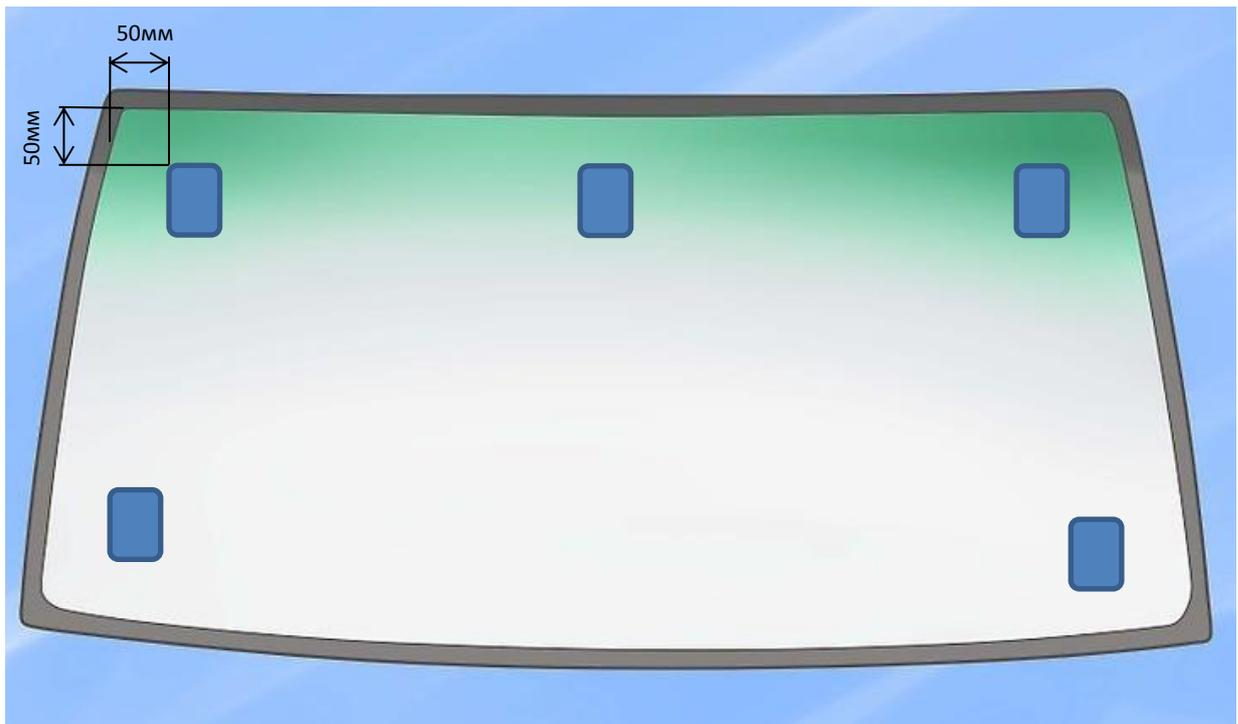

Figure 4. Variants of mounting to the windshield.
In case of damage the firmware Tracker and if you cannot upgrade to the regular way, disaster recovery mode. To restore, you must close the jumper the two special contact on board Tracker (see Figure 4), connect the PC USB cable (USB port on the computer must provide the power), run on your computer utility. This utility writes in Tracker base version
3. 2. Open installation. The tracker is mounted inside the car interior, horizontally, with the logo upwards, on the dashboard, or at an angle of up to 90 degrees on the windshield, with the logo ahead in the direction of travel (Figure 4). The power of the tracker can be either from an on-board 12/24 V network or via a USB port from a special adapter, with a USB output of 5V, 1A.